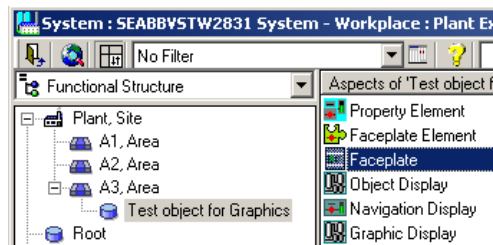

Figure 11. Faceplate aspect available for an object
- Right-clicking Faceplate aspect in the Plant Explorer workplace and select one of the required faceplate view from the context menu as shown in Figure 11.